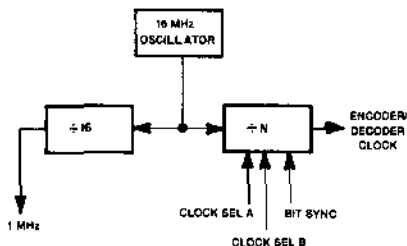

Fig. 7-5. Block diagram of timing circuit, Model 1540.
7.1.3 Timing Electrical Theory (Refer to Figs. 7-5 and 7-6)